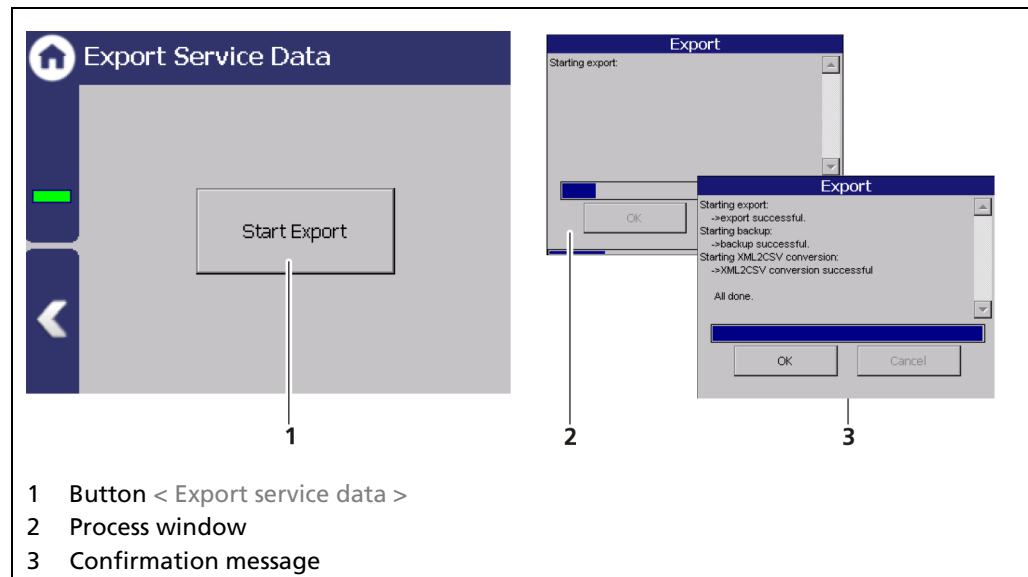

Fig. 142 Export Service Data
1. Click on the entry field "Logging interval" (Fig. 142, item 3) and enter an interval.
2. Start the network data log (Fig. 142, item 1).
2. The USB storage is recognised by the system after a few seconds and the button < Export service data > (Fig. 142, item 1) can be clicked.
3. Click on the button < Export service data > (Fig. 142, item 1).
- ▶ The process window is displayed and the export of service data will be carried out (Fig. 142, item 2).
- ▶ After successful export a confirmation message Fig. 142, item 3) is displayed.